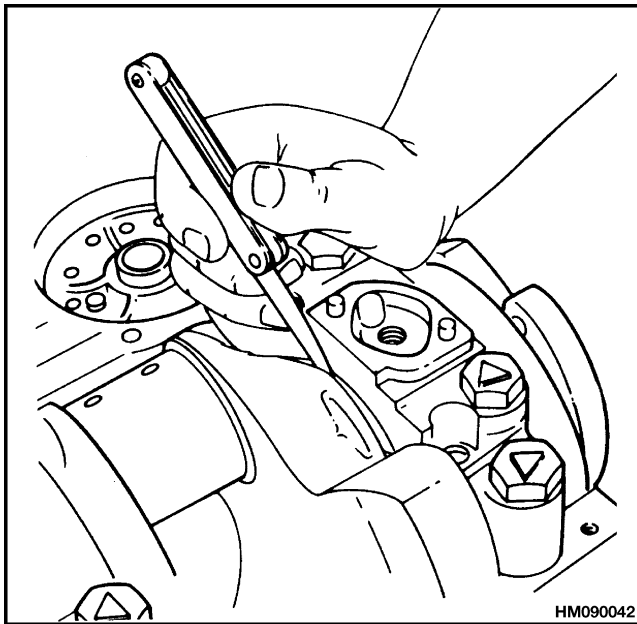

Figure 60. Crankshaft Axial Clearance Measurement
10. Check the axial clearance between the rear main bearing and the thrust surface. Push the crankshaft forward. See Figure 60. Measure the clearance between the crankshaft and the thrust surface of the rear bearing. The correct end play clearance is 0.05 to 0.15 mm (0.002 to 0.006 in.).
- b. Check the clearance between the rear main bearing and the thrust surface. Push the crankshaft forward. Measure the axial clearance between the crankshaft and the thrust surface of the rear bearing. See Figure 60.